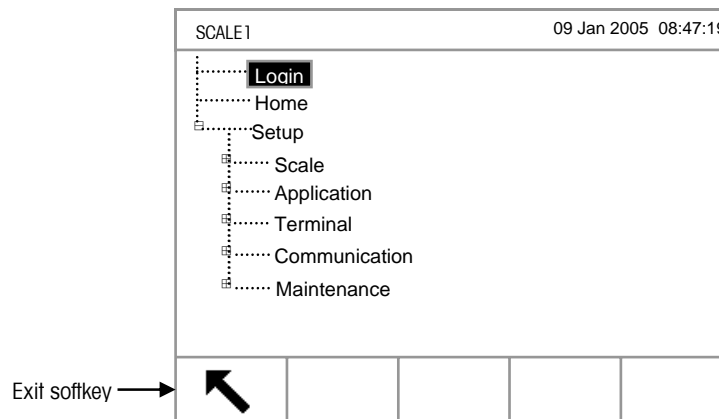

Figure 3-16: Setup Menu Tree Screen
1. From the setup menu tree screen, press the EXIT softkey (see Figure 3-16).